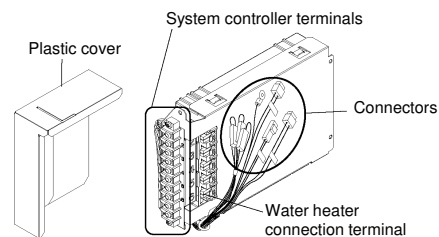

Figure 1: System controller and Plastic cover
- 1) Verify if any options (e.g. Warning Light, Operation Light, Circulation Pump, Exhaust Fan) are utilized (Figure 1). If in use, disconnect the electric power for all options being used.
1. Remove the plastic cover (Figure 1)
- * Disconnect all additional wires for each optional item (Figure 1).
- * Disconnect all connectors from the system controller (Figure 1).
- 8) Reconnect any options (e.g. Warning Light, Operation Light, Circulation Pump, Exhaust Fan) (Figure 1) disconnected from step 1).
- 10) Reconnect any options (e.g. Warning Light, Operation Light, Circulation Pump, Exhaust Fan) (Figure 1) disconnected from step 1).